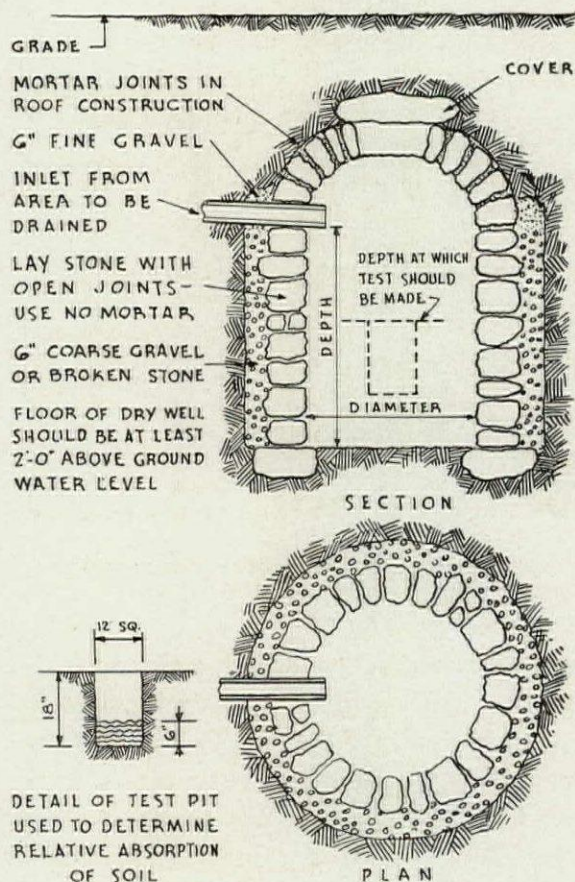

FIGURE 6—DRY WELL CONSTRUCTION
*Surface Coating* is the application of a damp-proof cement plaster to the interior (or exterior) surfaces of the basement. (Figure 6.) The walls and floor to be treated must be rough and it is important that they be carefully prepared to receive the plaster by thorough cleaning and moistening. Wetting should be done with clean water several hours before the application of the plaster.
Dry well design should follow closely the best practices observed in the construction of leaching cesspools as shown in Figure 6. Though a dry well built of stone is illustrated, other materials commonly used include brick and concrete blocks. In all cases the material should be laid with open joints. When brick is used, every sixth course must be laid in mortar. If concrete blocks are used the 8 inch size is recommended. Also available is a 4 inch radial type concrete block with holes which is designed especially for cesspools.